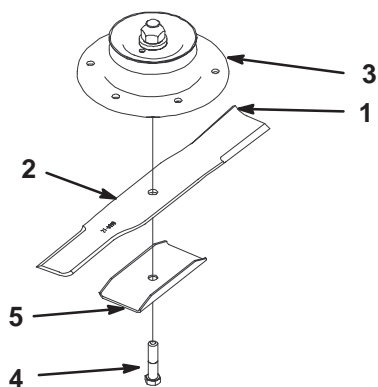
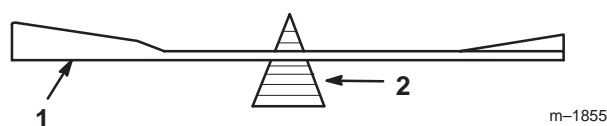

Figure 40
Figure 42
1. Hold the blade end using a rag or thickly-padded glove. Remove the blade bolt, blade stiffener and blade from the spindle shaft (Fig. 40).
2. Check the balance of the blade by putting it on a blade balancer (Fig. 42). If the blade stays in a horizontal position, the blade is balanced and can be used. If the blade is not balanced, file some metal off the end of the sail area only (Fig. 40). Repeat this procedure until the blade is balanced.
1. Install the blade onto the spindle shaft (Fig. 40).
Important The sail part of the blade must be pointing upward, toward the inside of the mower to ensure proper cutting (Fig. 40).
2. Install the lock washer and blade bolt (Fig. 40). Torque the blade bolt to 85–110 ft-lb (115–140 N•m).